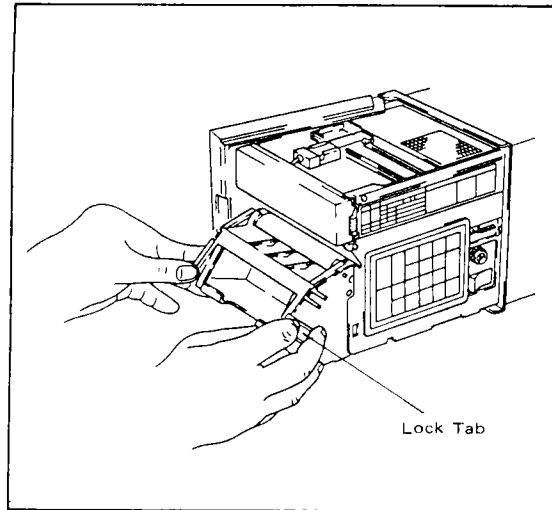

Figure 5-3.
- (3) While gently pressing the chart paper compartment lock tab, located at the lower right front, in the direction of the arrow, swing and lift the compartment away from the unit. (See Figure 5-3.)